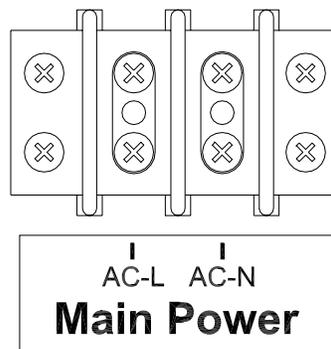

Figure 16 Power Cable Wiring Diagram
4. Connect the power cable to the Main Power terminal block on the junction chassis according to figure 16.